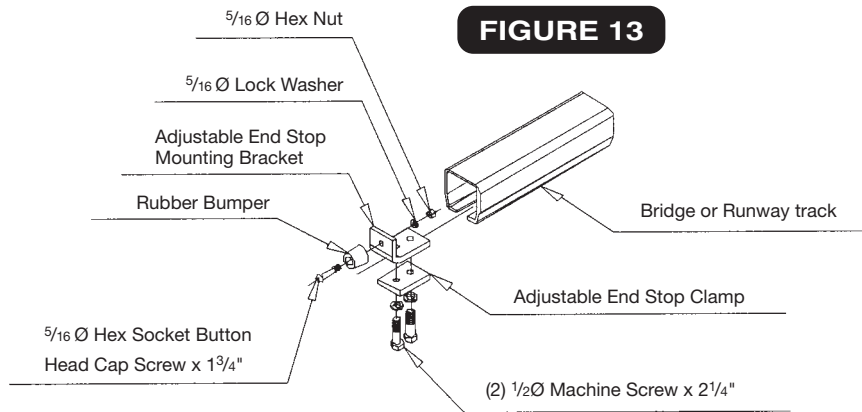

FIGURE 13
2. Systems using conductor bars on the bridge girder will need adjustable end stops **in addition** to the fixed end stops described in steps 5-2 and 5-4. See *Figure 13*.